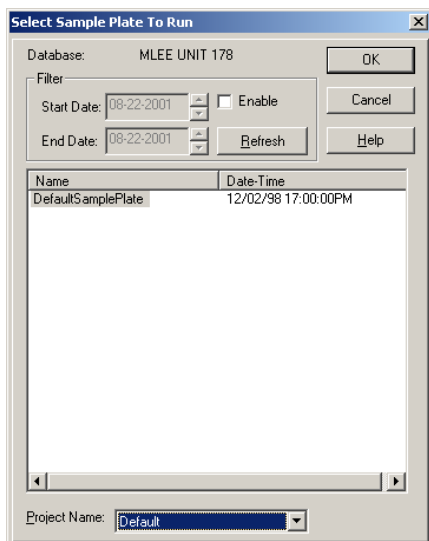

Figure 1.16 Select Sample Plate To Run Dialog
2. In the **Select Sample Plate To Run** dialog box (Figure 1.16), select the desired project and sample plate and click **OK**.